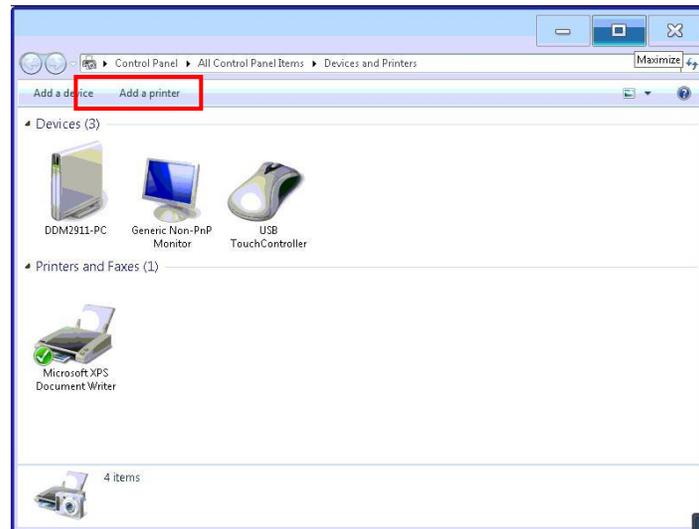

Figure 10-19 - Select the Add a Printer option
- 3) Select **Add A Printer** at the top of the window as shown in the image below. (see Figure 10-19)